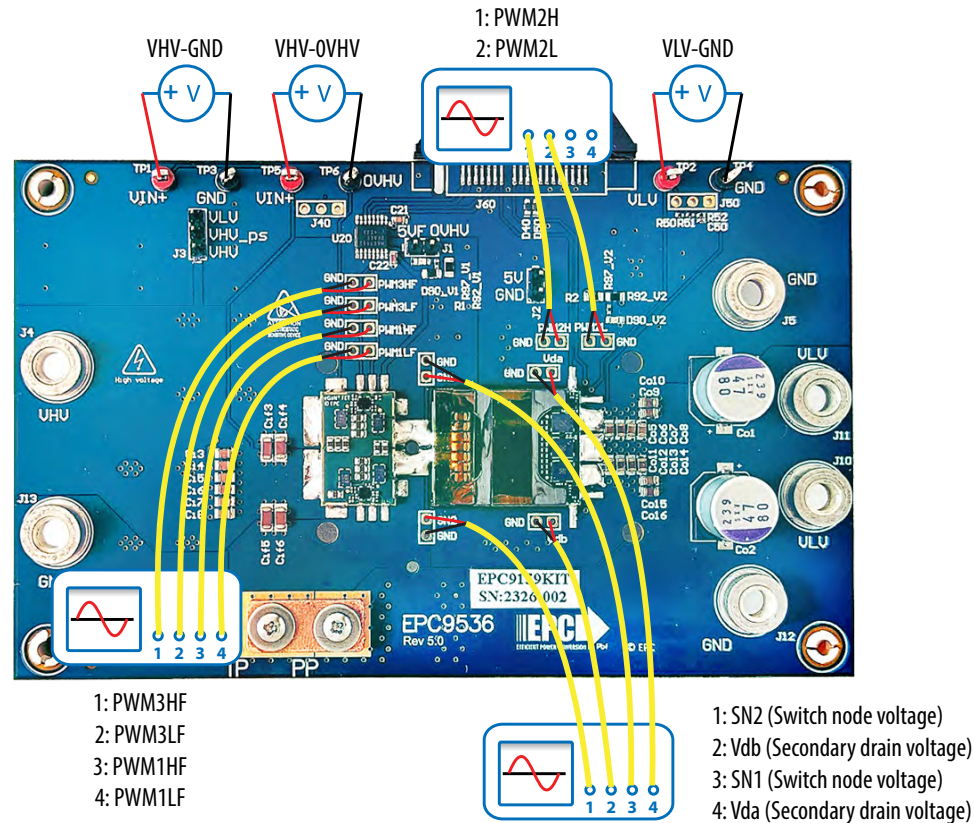
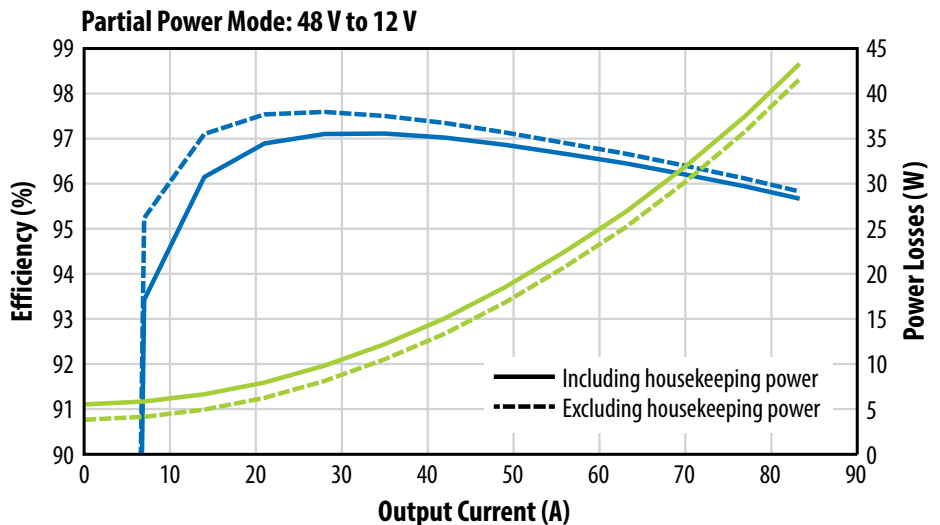
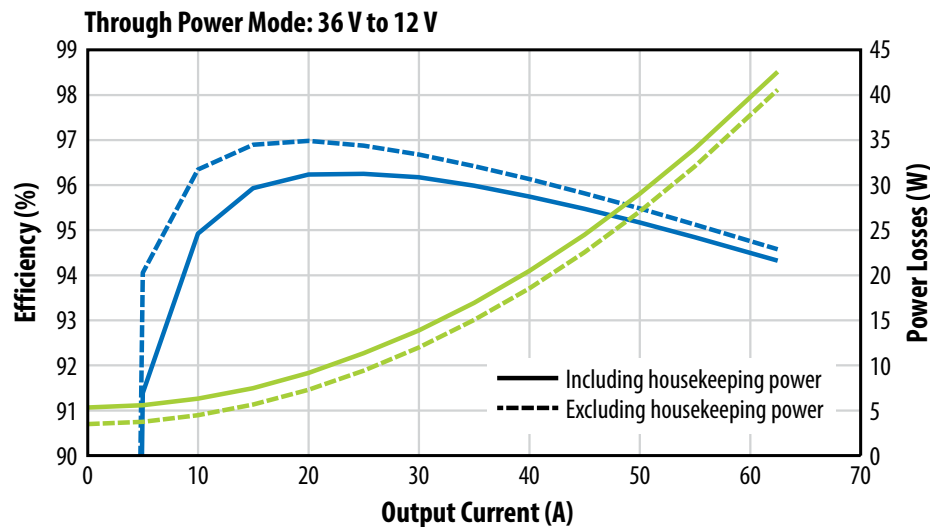

Figure 8: EPC9159KIT hookup locations for DC measurements and oscilloscope probe points for waveform measurements
Figure 12: Measured efficiency and power loss curves for the EPC9159KIT with the heatsink installed in Partial Power Mode
Figure 14: Measured efficiency and power loss curves for the EPC9159KIT with the heatsink installed operating in Through Power Mode with 400 LFM forced airflow
Figure 8 shows the various measurement connections of the EPC9159KIT evaluation kit. The motherboard is equipped with Kelvin sense points for DC voltage measurements of input and output voltages, needed for accurate converter efficiency measurements.
6. With power off, connect the various measurement probes as shown in figure 8.
The measured power loss and efficiency of the EPC9159KIT operating in Partial Power Mode with 400 LFM forced airflow and heatsink installed is shown in figure 12. Input and output DC voltages were measured using the Kelvin connections shown in figure 8. Input DC current was measured using a shunt resistor between the output of power supply and the VHV terminal of the kit, and output current was controlled and measured using a controllable electronic load. Two cases, one that includes housekeeping power (solid lines) and the other excluding it (dashed lines) are provided.
The measured power loss and efficiency of the EPC9159KIT operating in Through Power Mode with 400 LFM forced airflow and heatsink installed is shown in figure 14. Input and output DC voltages were measured using the Kelvin connections shown in figure 8. Input DC current was measured using a shunt resistor between the output of power supply and the VHV terminal of the kit, and output current was controlled and measured using a controllable electronic load. Two cases, one that includes housekeeping power (solid lines) and the other excluding it (dashed lines) are provided.